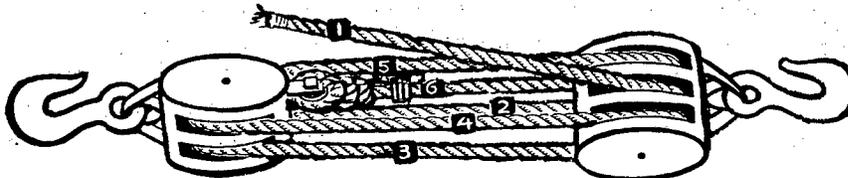

FIGURE 4.—Reeving—triple and double.
- c. Complete steps in figure 4.